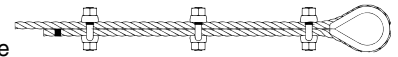

Figure 3
3. When three or more additional clips are required, space additional clips equally between first two – take up rope slack – use torque wrench to tighten nuts on each clip evenly, alternating from one nut to the other until reaching recommended torque. (See Figure 3)